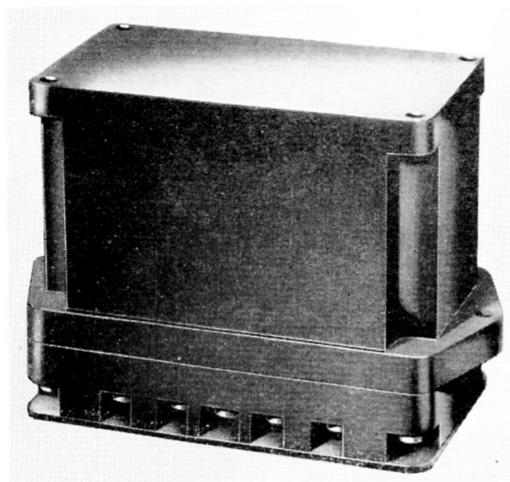
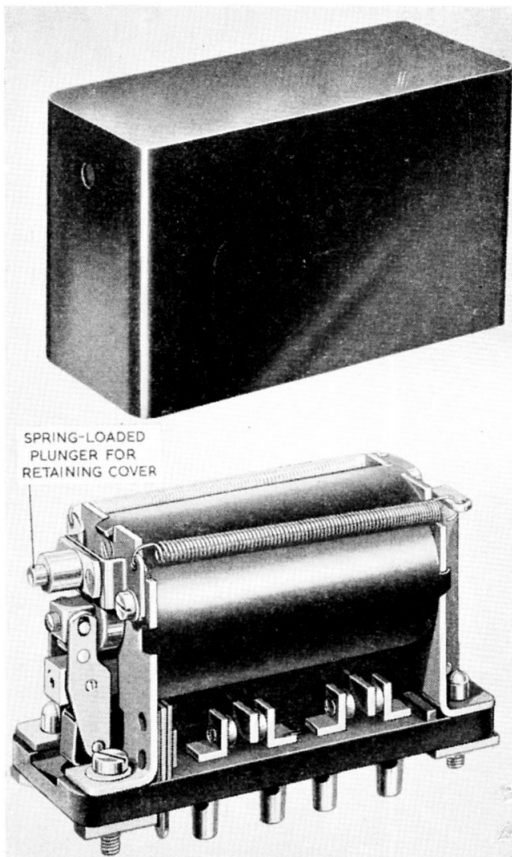

Fig. 1. Magnetic relay switch, Type S2
Fig. 3. Magnetic relay switch, Type S1
2. Type S1 and S2 are 25 amp. double-pole change-over switches, and are similar, apart from the fact that the Type S2 is enclosed in a weatherproof case with terminals. The S1 is shown in fig. 3 with the cover removed, and the S2 in fig. 1 and 2.